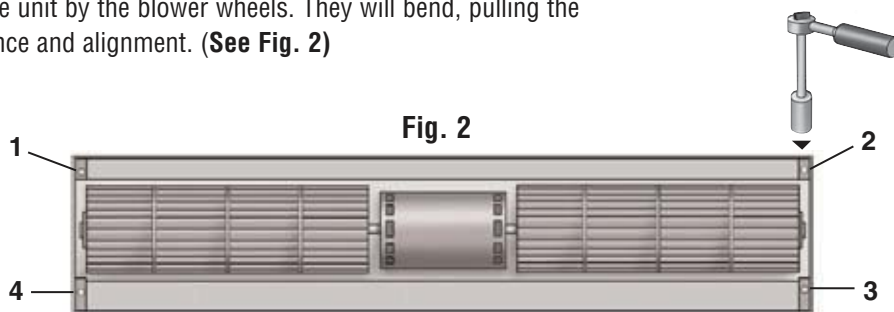

Fig. 2
Use a 3/8" socket and extension to remove four (4) lag bolts that hold the unit to the skid. The air curtain is now ready for installation. Use caution. Do not grasp the unit by the blower wheels. They will bend, pulling the unit out of balance and alignment. (See Fig. 2)